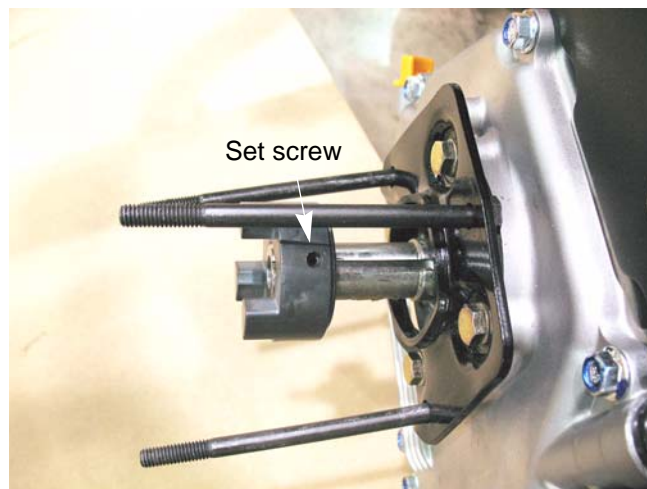

Figure 2.3
7. Remove the set screw in the engine coupling using a 1/8" hex key. See Figure 2.3.